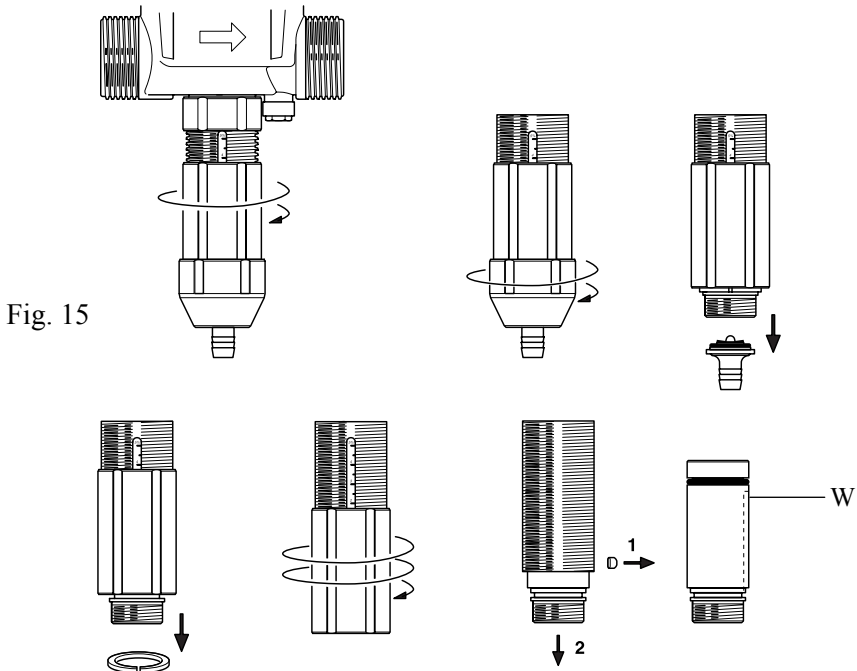

Fig. 15
- 1 - When using soluble products to be made up into solutions, it is recommended to periodically dismantle the entire injecting portion, copiously rinse it with water and re-assemble it after having previously lubricated the seal with a silicone lubricant **W** (Fig. 15).